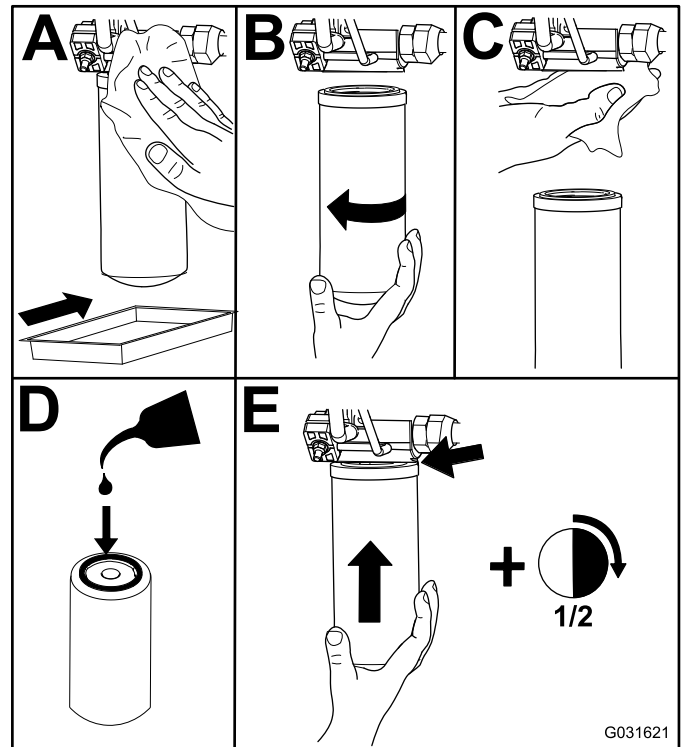

Figure 77
2. Replace the hydraulic filters (Figure 77).